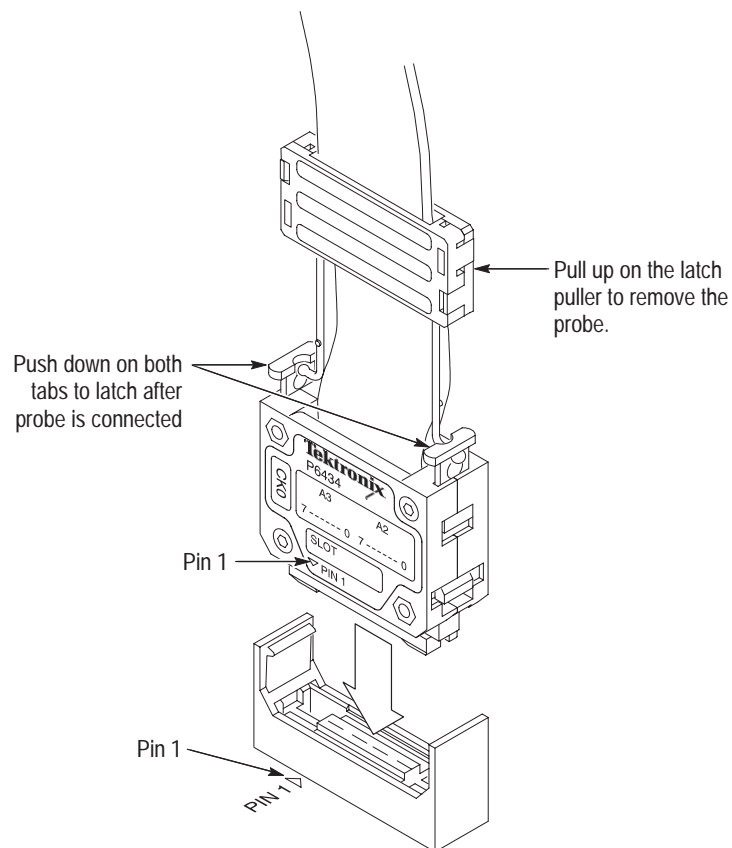

Figure 1–4: Connecting a probe to the connector on the probe adapter
7. Insert the probe adapter into the *Rambus Direct RIMM* connector on the system under test as shown in Figure 1–3.
8. Optional: Attach a tie-down strap(s) through the slot(s) on the probe adapter, and then to the SUT or the benchtop (see Figure 1–3). This step minimizes movement in the Rambus Direct RIMM connector after insertion of the probe adapter.
10. Position the probe tip perpendicular to the mating connector and gently connect the probe as shown in Figure 1–4.